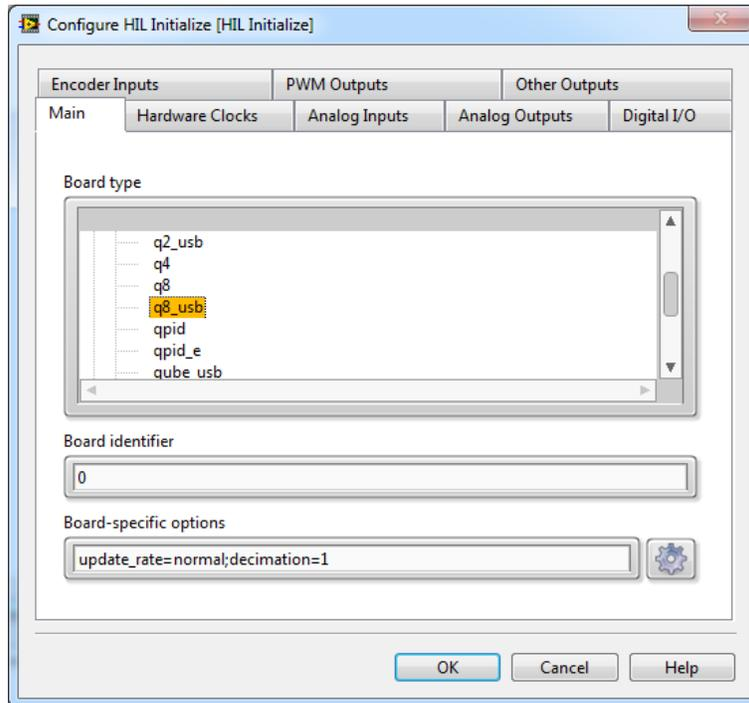

Figure 4.4: Selecting the q8\_usb board
- Under the Main tab, select the data acquisition device that is installed on your system in the *Board type* section. For example, in Figure 4.4 the Q8-USB is chosen.